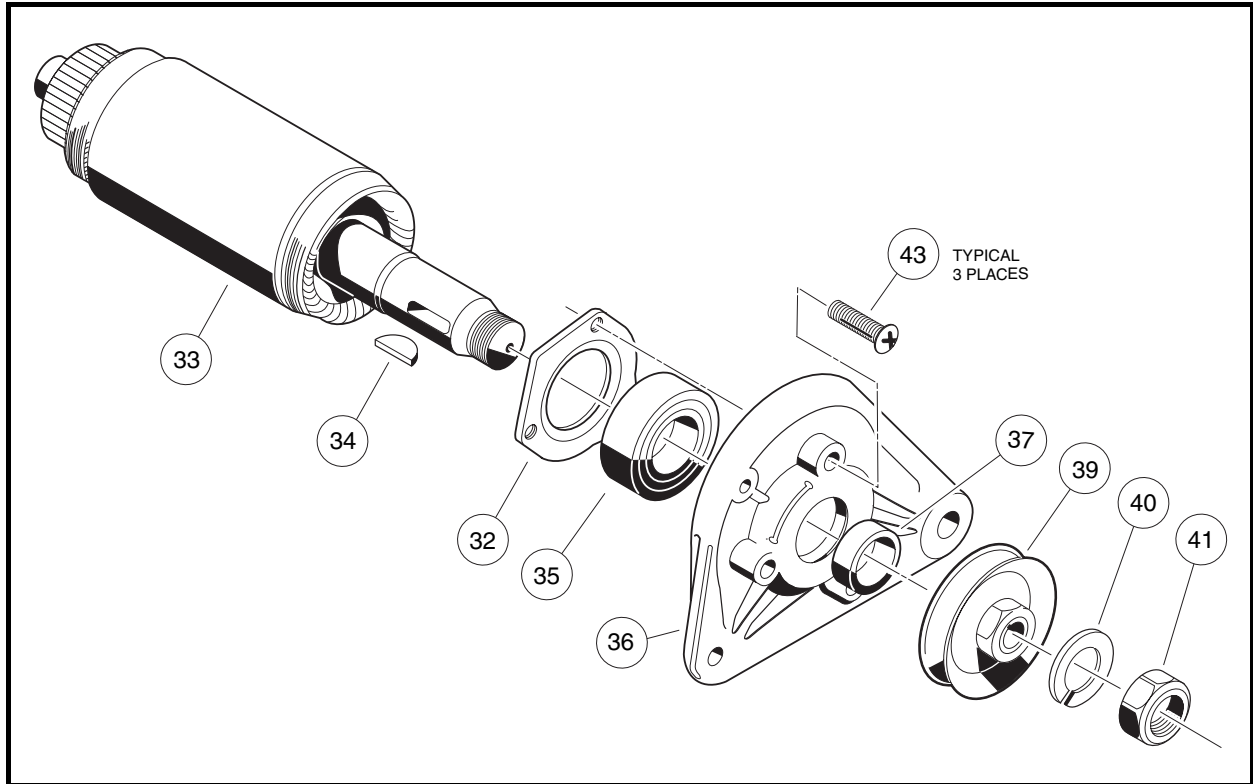
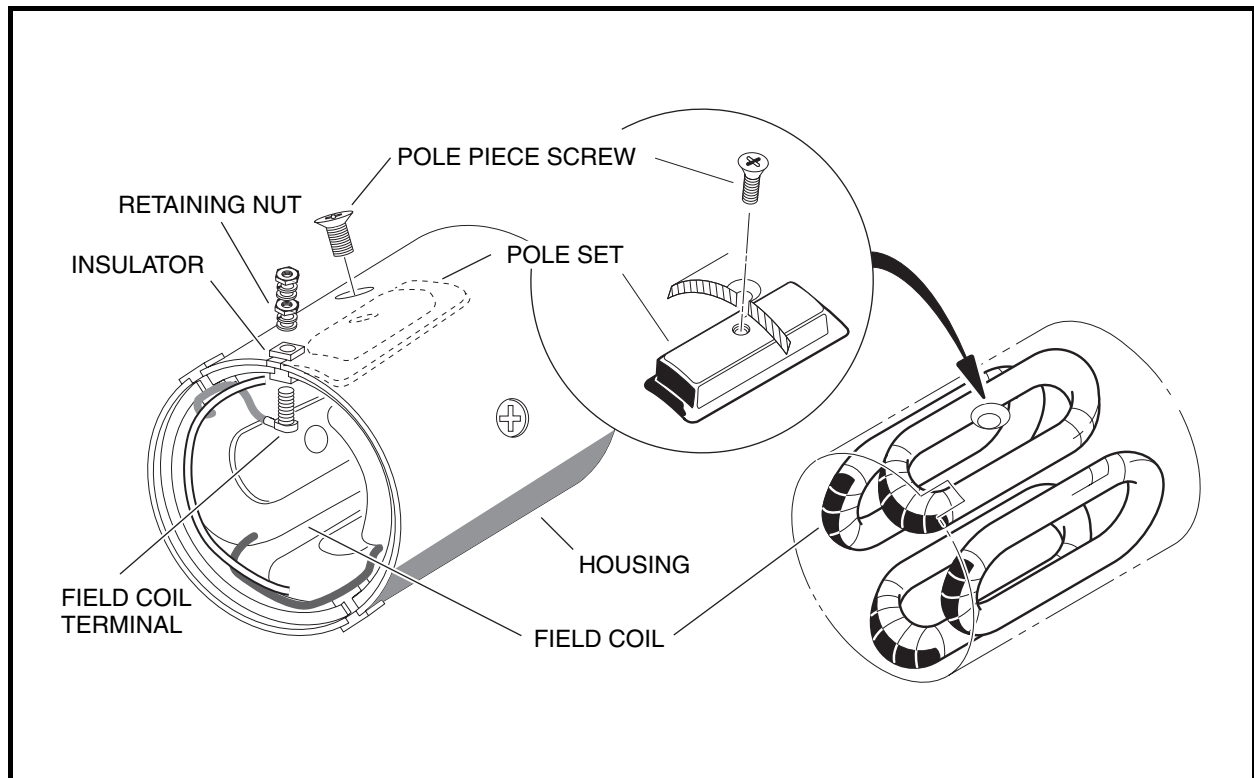

Figure 12-7 Armature and Output End Cover Assembly
Figure 12-10 Field Coil Assembly
3. To separate armature (33) from output end cover (36), remove nut (41), lock washer (40), pulley (39), shaft key (34), spacer (37), and bearing retainer screws (43) **(Figure 12-7, Page 12-5)**.
3. Slide the bearing retainer (32) off of the output end of the shaft (**Figure 12-7, Page 12-5**).
1. Remove the retaining nut from each field coil terminal and slide the insulator out of the slots in the housing. Remove the four pole piece screws from the housing. Remove the four pole pieces from inside the housing. Remove the field coils from the inside of the housing (**Figure 12-10, Page 12-7**). **See following NOTE.**
NOTE: Do not remove the insulators or the field coils unless an electrical test indicates that it is necessary (**Figure 12-10, Page 12-7**). **See Test Procedure 8, Section 11, Page 11-20.**
2. After the insulators are seated in the slots, install the threaded terminals through the wire connectors and then through the insulators. Install a flat washer, lock washer and nut onto each threaded terminal on the outside of the housing. Tighten nuts to 47.5 in-lb (5.4 N·m) (**Figure 12-10, Page 12-7**).
3. Install the four pole pieces into the housing. Use the four screws to secure pole pieces to the inside of the housing to retain the field wires. Tighten screws to 9 ft-lb (12.2 N·m) (**Figure 12-10, Page 12-7**).
4. Slide the bearing retainer onto the output end of the armature shaft (33) so that it will hold the outside of the bearing (35) only.
5. Press a new ball bearing (35) onto the output end of the armature (**Figure 12-7, Page 12-5**). Press a new ball bearing onto the commutator end of the armature shaft. **See following CAUTION.**
6. Install the output end cover (36) onto the armature. Secure the bearing retainer (32) to the cover and tighten the screws (43) to 39 in-lb (4.4 N·m) (**Figure 12-7, Page 12-5**).
11. Slide the spacer (37) onto the end of the shaft. Insert the shaft key (34) into the shaft. Install the belt pulley (39) onto the shaft, and install the lock washer (40) and M14 nut (41). Tighten the nut to 28 ft-lb (38.0 N·m) (**Figure 12-7, Page 12-5**).